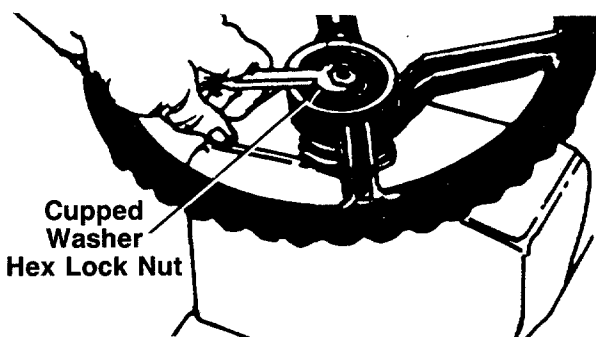

FIGURE 3.
5. Place the washer with the cupped side down over the steering shaft. Secure with 5/16" hex lock nut. See figure 3.